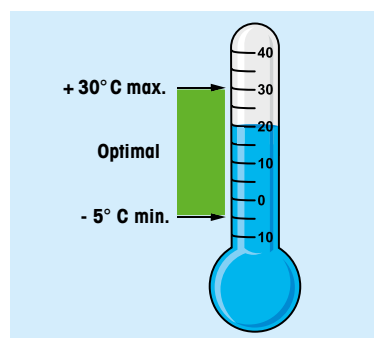

Figure 1. Recommended temperature range for balances
- Keep the lab room temperature as constant as possible. Do not expose the balance to direct sunlight in order to avoid warming up the balance. Temperature changes influence the weighing result. Typical drift is 1–2 ppm/°C. Do not exceed the range of –5 to 30 °C (see Figure 1).
- Keep air humidity ideally in the range of 45–60% relative humidity (RH). Balances should never be operated above or below the measuring range of 20 to 80% RH. Second, a few updates and changes to traditional lab equipment can make big differences in accuracy and weighing task productivity.